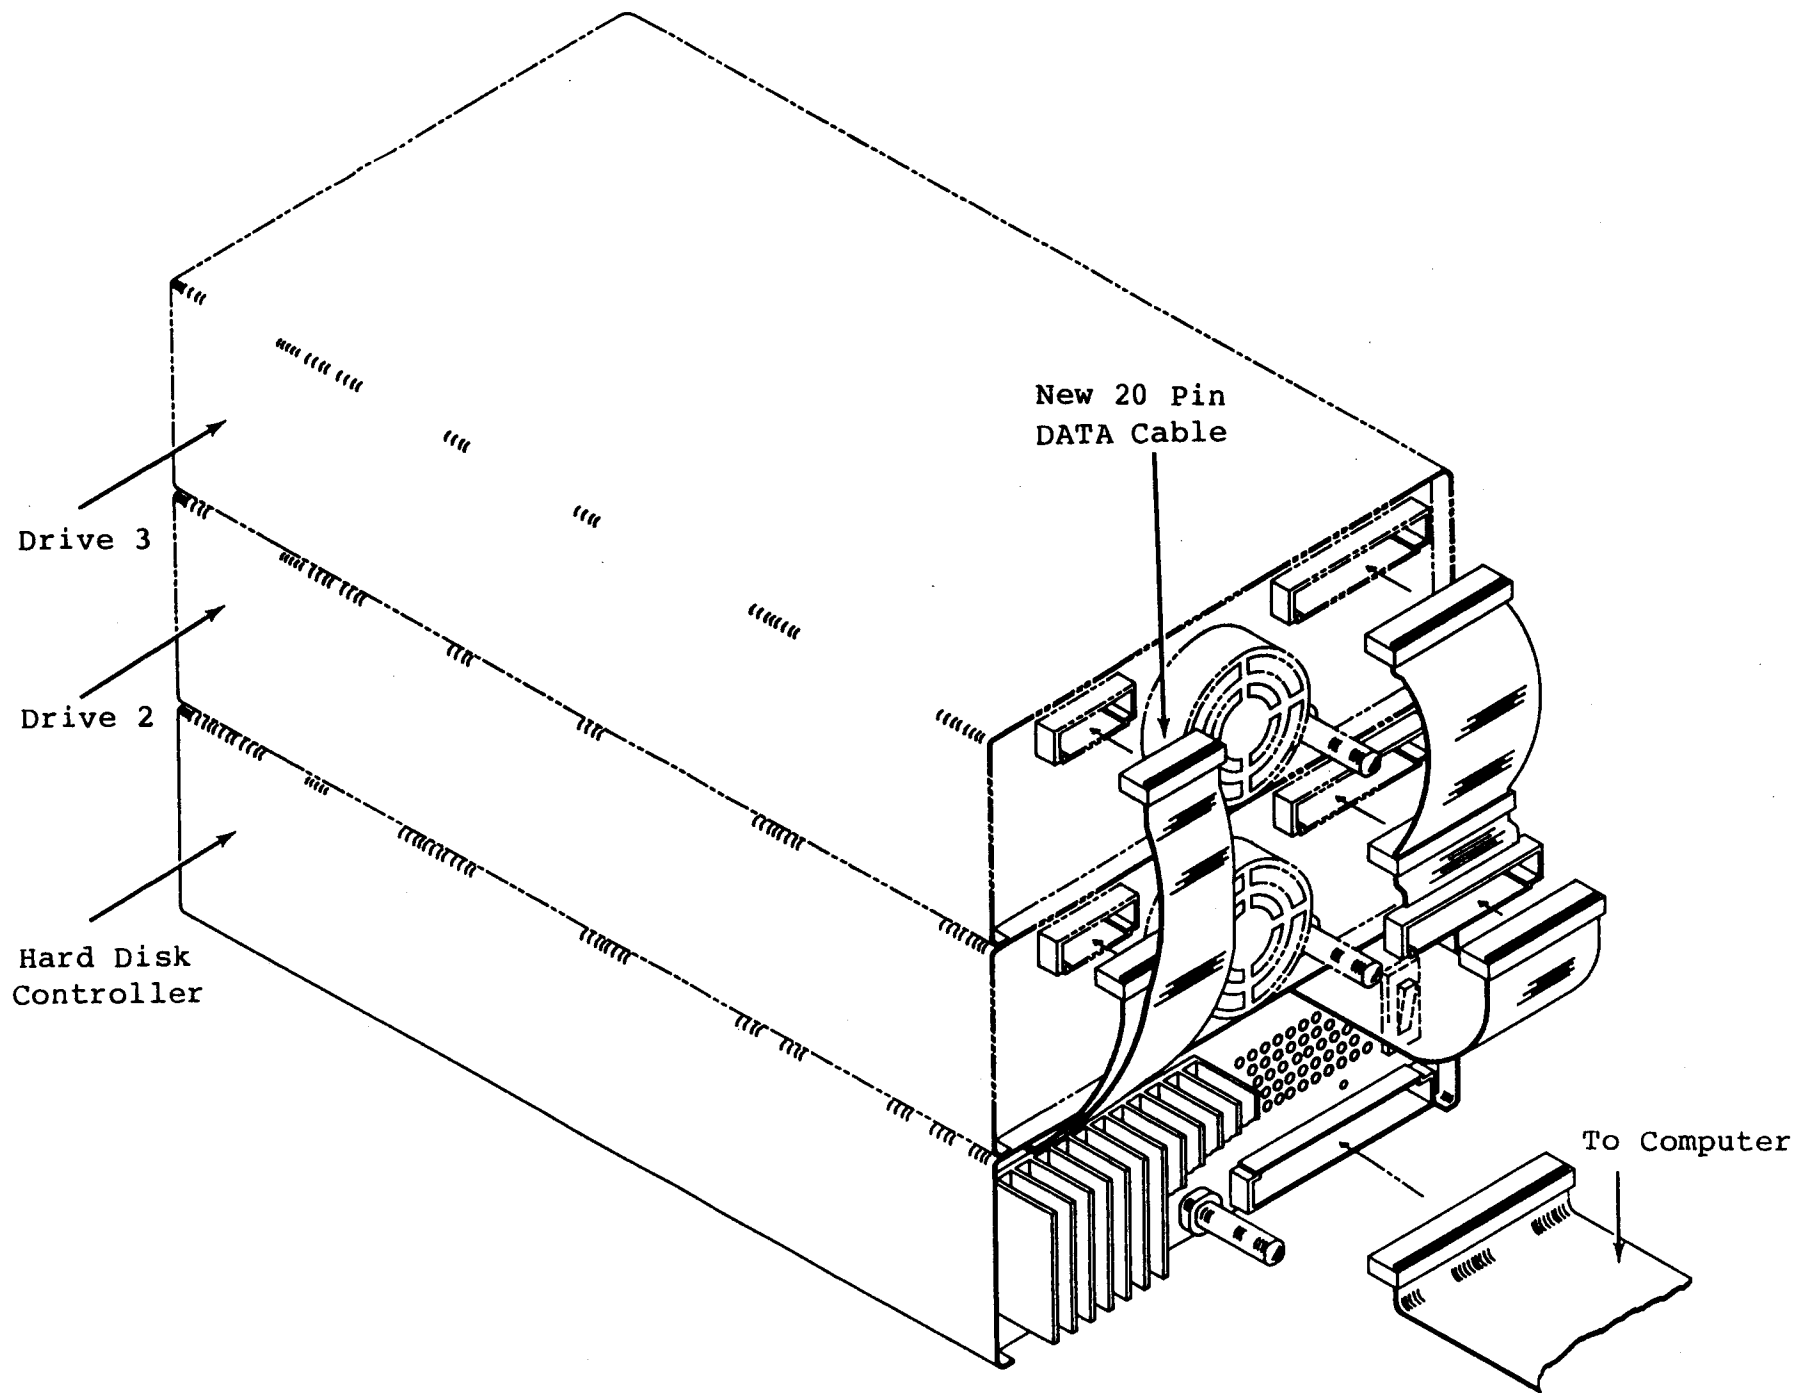

Figure 4
7. Place Drive 2 on top of the Controller cabinet. Place Drive 3 on top of Drive 2 as shown in Figure 4.